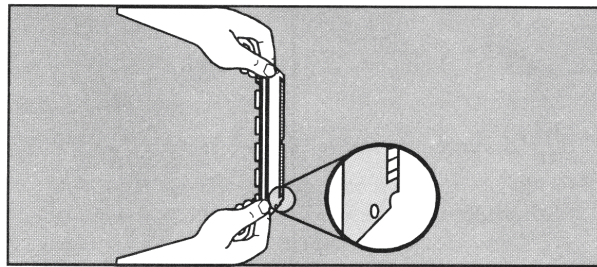

Figure B-1.8. Positioning the SIMM.
1. Remove the new SIMM from its antistatic package. Hold the board with your forefingers on the side edges and your thumbs against the back edge, as shown in Figure B-1.8. Turn the board so the notch on one end is on the bottom and the metal teeth face toward the slot.